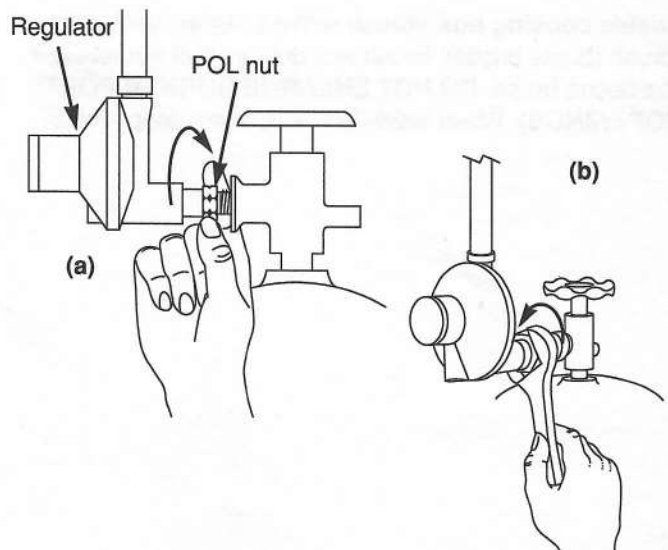

Figure 5
- c) Connect the hose to the tank. Route the hose so it does not interfere with the scale indicator rod. The regulator, POL nut has a left-hand thread. It tightens by turning counterclockwise. Start tightening the POL nut by hand. Figure 5 (a). Finish tightening with a 7/8 inch, open-end or an adjustable wrench. Figure 5 (b).